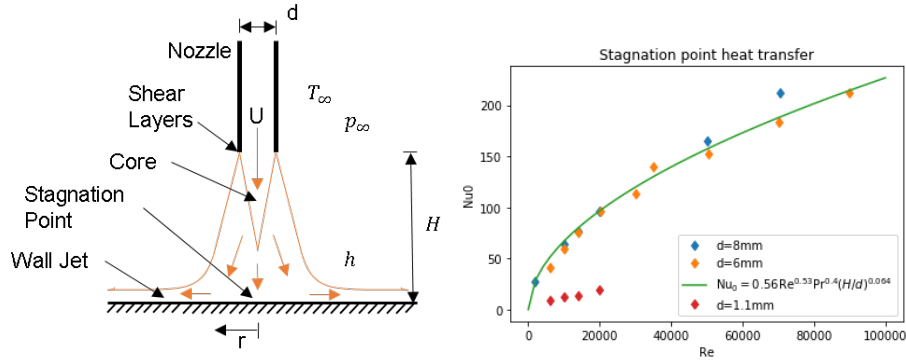

Figure 2: Impinging jet heat transfer. Unpublished data measured by Mikkonen and Pirttiniemi.
From the literature, we can find multiple correlations for the stagnation point heat transfer in impinging jets. See schematics in Fig. 2. For stagnation point $r = 0$. One such correlation is
where $a = 0.56$ and $b = 0.53$ and it works well for the larger nozzle diameters $d = 6$ mm and $d = 8$ mm shown in Fig. 2. However, from Fig. 2 we can readily see that for the smallest diameter nozzle $d = 1.1$ mm, the correlation fails.
1. **Modify a and b in Eq. 6 to match $d = 1.1$ mm in Fig. 2. How reliable do you consider this correlation?**